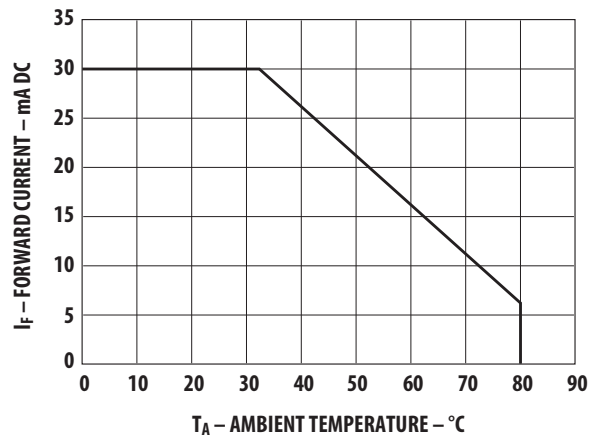

Figure 6. Maximum DC forward current vs. ambient temperature. Derating based on T_j max. = 115°C
- Derate linearly from 50°C as shown in Figure 6.